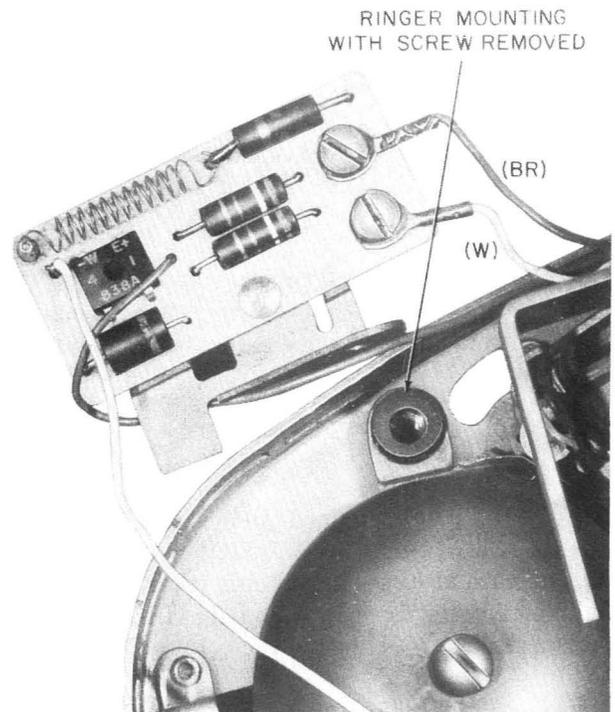
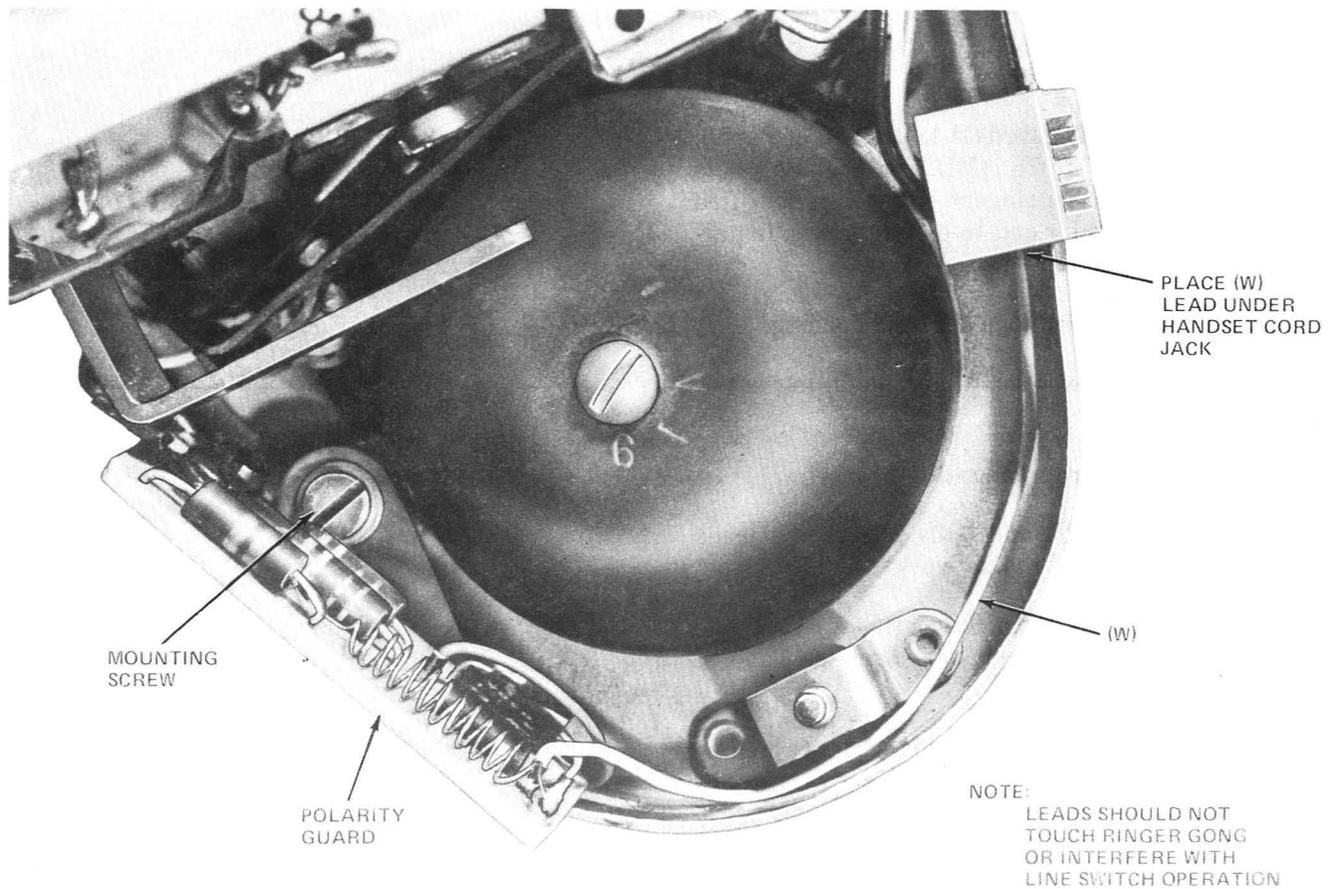

Fig. 8—Installation and Connection of D-181063 Kit of Parts (Polarity Guard)
Fig. 9—D-181063 Kit of Parts (Polarity Guard) Lead Dressing in PRINCESS Telephone Set
- (1) Remove the telephone set base housing.
- (2) Remove the exposed ringer mounting screw (Fig. 8).
- (3) Remove dial from mounting bracket.
- (4) Remove the (W) and (BR) line switch leads from F and C of the network (see Table E).
- (5) Connect [leads from Step (4)] (W) to T and (BR) to S of the polarity guard, see Table E and Fig. 8.
- (6) Attach the polarity guard to the ringer mounting [hole vacated in Step (2)] with the screw provided in the kit of parts.
- (7) Connect (G) and (W) of the polarity guard to F and C of the network, respectively (see Table E).
- (8) Dress leads as shown in Fig. 9.
- (9) Replace dial.
- (10) Replace housing.